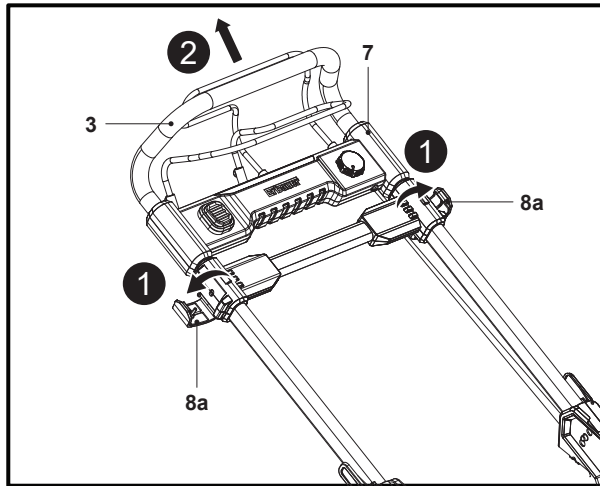

Fig. 3
4. Pull open the two clamp levers (8a), then grasp the grip handle (3) and gradually pull out upper handle bar (7) all the way until an audible click is heard (Fig. 3, steps 1, 2).